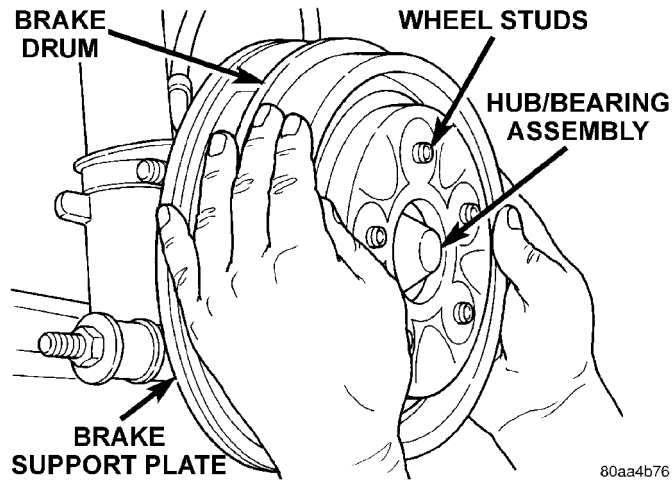

Fig. 141 Brake Drum Removal
- (12) Raise vehicle on jackstands or centered on a frame contact type hoist. See Hoisting in the Lubrication and Maintenance section of this manual for the required lifting procedure to be used for this vehicle.
- (13) Remove rear wheel and tire assembly.
- (14) On vehicles equipped with rear drum brakes, remove brake drum (Fig. 141) from rear hub/bearing assembly. On vehicles equipped with rear disc brakes, remove disc brake caliper from disc brake